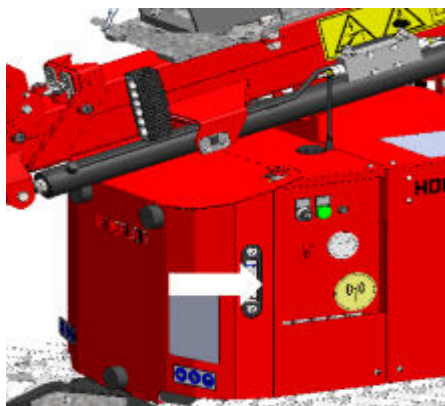

Figure 4.1 Checking oil level
4. Check the oil level in the hydraulic tank (see *Figure 4.1*). The oil level must be between the upper and lower marks in the sight glass on the left side of the crane. If necessary, top up with Hydro 46.